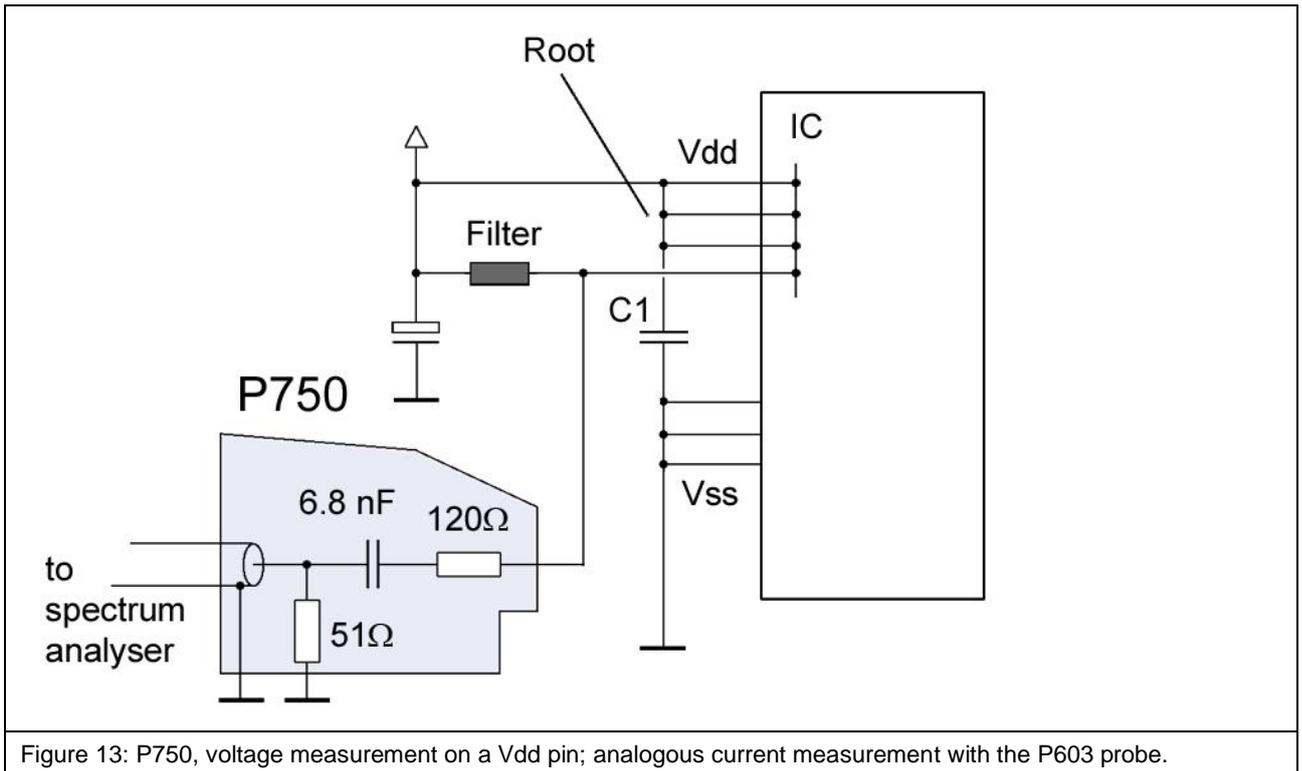

Figure 13: P750, voltage measurement on a Vdd pin; analogous current measurement with the P603 probe.
6. Voltage measurement (**P750**) on a Vdd or Vss pin, **Figure 13**
An IC internal connection to other Vdd supply pins is assumed for a voltage measurement on a Vdd pin (**Figure 13**). This measurement enables the determination of voltage dips on the IC's internal Vdd network.